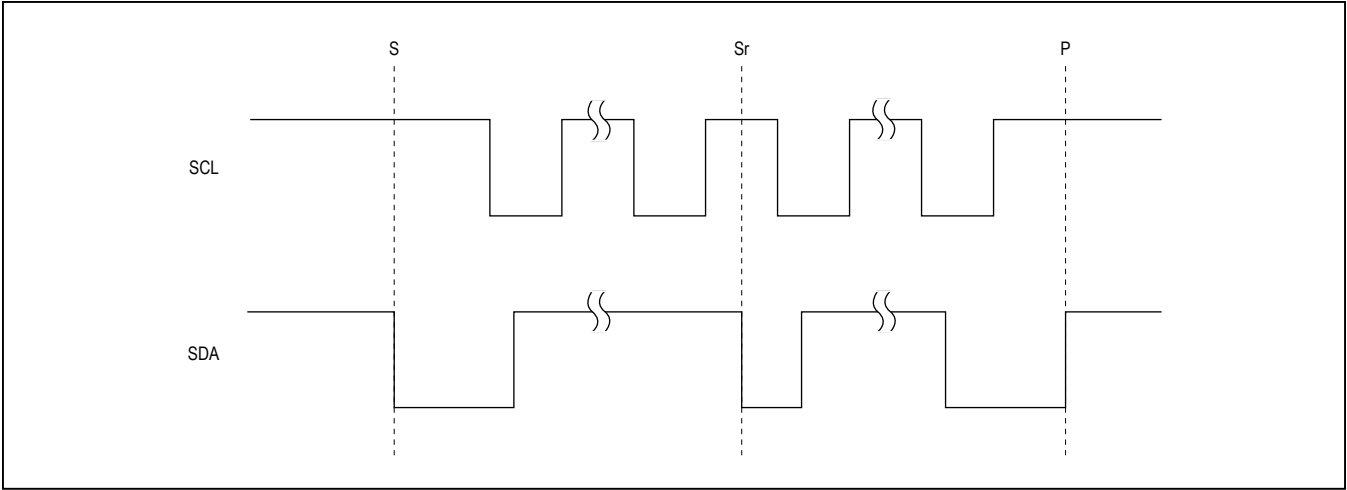

Figure 21. I²C START, STOP, and Repeated START Conditions
condition (P), to relinquish control of the bus, or a Repeated START condition (Sr) to communicate to another I²C slave. See Figure 21.